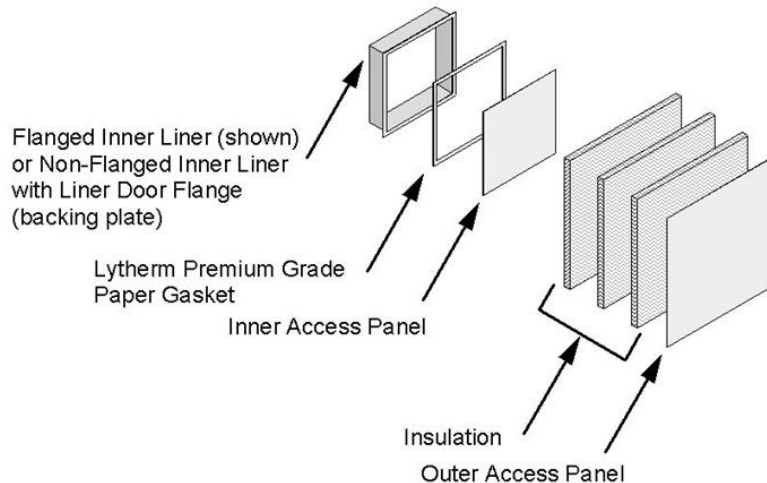

Figure 2. Access Door
- D. ACCESS DOOR – Reference Figure 2. When required, use a Pre-Fabricated Grease Duct section pre-equipped by manufacturer with an access door assembly having a max. 20 in. x 20 in. opening at the inner access panel and three layers of nominal 1 in. thick insulation, or two layers of nominal 1-1/2 in. thick insulation of the same type and density as the insulation used in the annular space of the duct. In lieu of the manufactured inner access door, a Ductmate F2 access door having a max. 24 in. x 18 in. opening at the access panel may be installed according to the manufacturer's installation instructions.